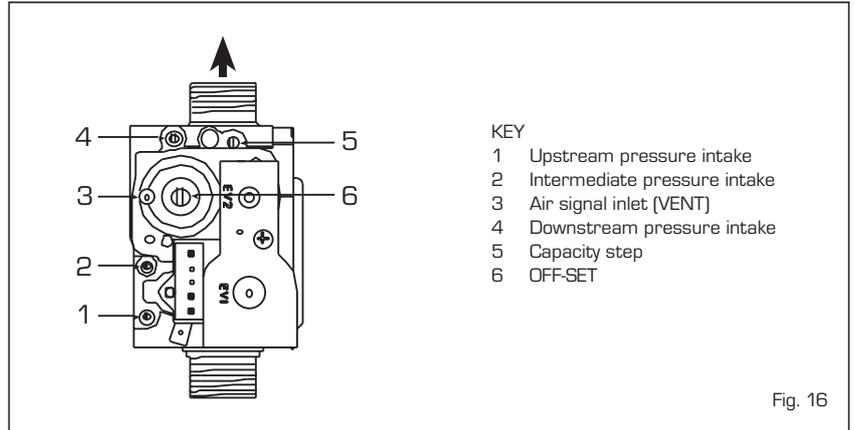

Fig. 16
The boiler is supplied as standard with a gas valve, model SIT 848 SIGMA (Fig. 16).
- 3) Identify the CO2 values at max. power by adjusting the shutter (5 in Fig. 16):
- 5) Identify the CO2 values at min. power by adjusting the OFF-SET regulation screw (6 in Fig. 16):